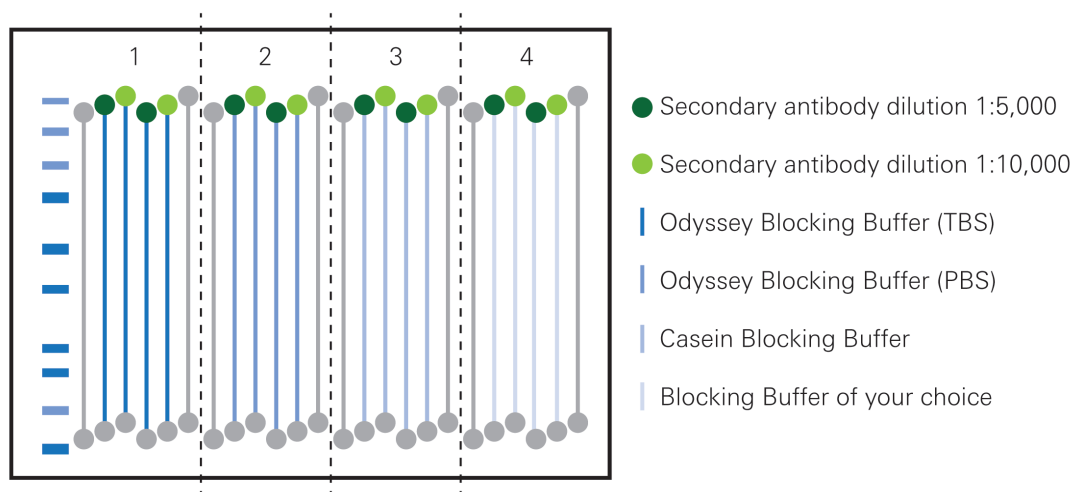

Figure 5. Placement of secondary antibody dilutions in the channels of the MPX Blotter.
- Add the secondary antibody dilutions to the channels previously stained with primary antibody, as shown in Figure 5.